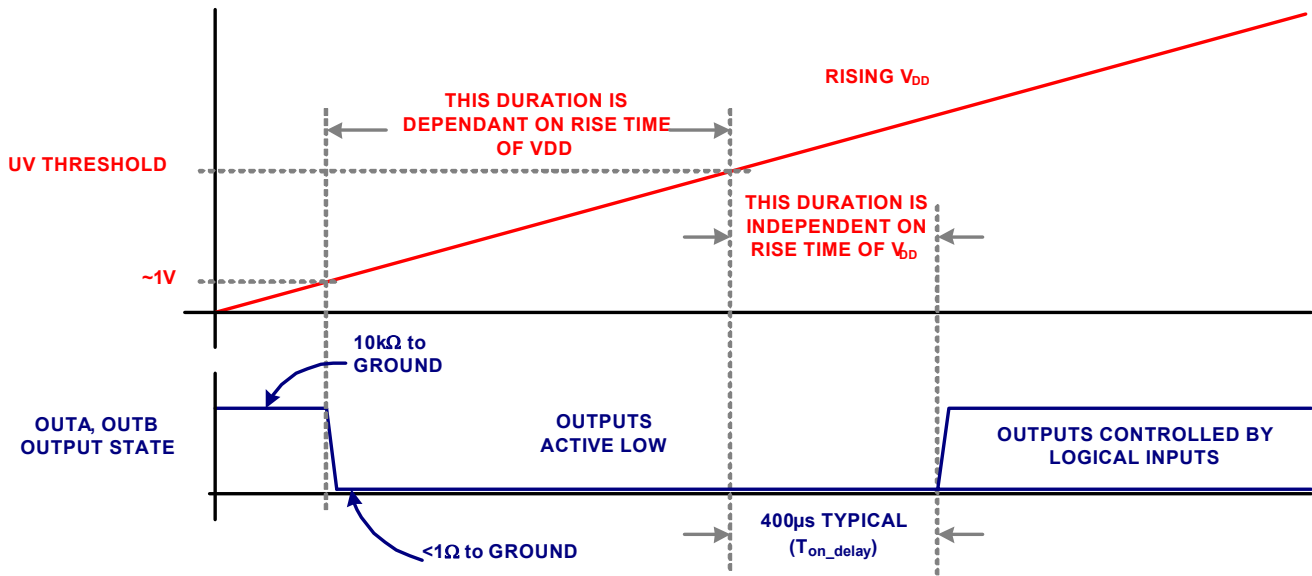

FIGURE 10. START-UP OUTPUT CHARACTERISTIC
- A 400 μs delay further inhibits the release of the output state when the UV positive going threshold is crossed. See Figure 10 on page 8.
The start-up sequence for input threshold Options A, B, and C is designed to prevent unexpected glitches when V_{DD} is being turned on or turned off. When $V_{DD} < \sim 1V$, an internal 10k Ω resistor connected between the output and ground, help to keep the gate voltage close to ground. When $\sim 1V < V_{DD} < UV$, both outputs are driven low while ignoring the logic inputs. This low state has the same current sinking capacity as during normal operation. This insures that the driven FETs are held off even if there is a switching voltage on the drains that can inject charge into the gates via the Miller capacitance. When $V_{DD} > UVLO$, and after a 400 μs delay, the outputs now respond to the logic inputs. See Figure 10 for complete details.